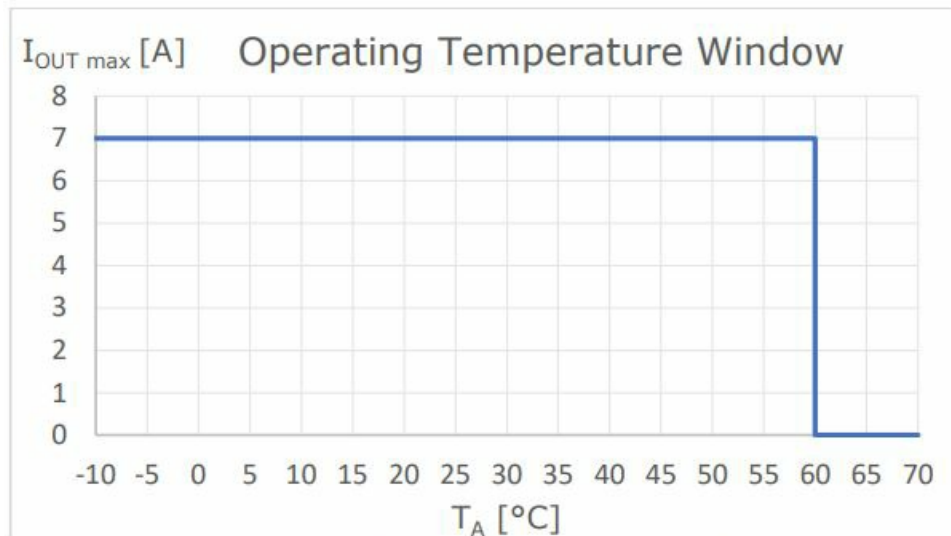

Figure 11: Operating Temperature Window
- Figure 11 shows the maximum output current values that can be provided by the RUNNING-LIGHT as a function of the operating temperature6 (or ambient temperature,  $T_A$ ) of the operation, summarized below: